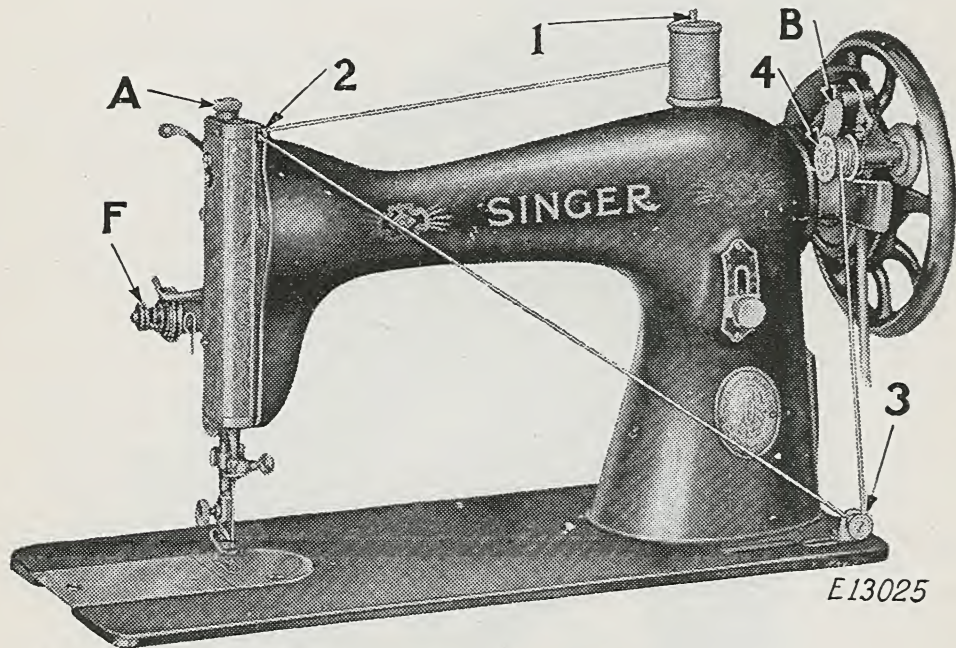

FIG. 5. WINDING THE BOBBIN
the small pin in the shoulder enter the hole in the side of the bobbin. Put the spool of thread on the spool pin (1, Fig. 5). Pass the thread into the thread guide (2, Fig. 5) at the top of the face plate, then from left to right under and between the tension discs (3) on the bed of the machine, then pass the thread up and through one of the holes (4) in the left side of the bobbin, from the inside. Press down on the bobbin and the bobbin winder latch (B, Fig. 5) will drop down and hold the bobbin winder pulley against the hub of the balance wheel. Then operate the machine the same as for sewing.
If the thread does not wind evenly on the bobbin, loosen the screw which holds the tension bracket (3, Fig. 5) in position on the bed of the machine and move the tension bracket to the right or left, as may be required, then tighten the screw.
For ordinary family sewing, it is seldom necessary to change the pressure on the material. If sewing fine silk or flimsy material, lighten the pressure by turning the thumb screw (A, Fig. 5) on the top of the machine over to the left so that it screws up. To increase the pressure, turn this thumb screw over to the right so that it screws down. The pressure should be only heavy enough to prevent the material from rising with the needle and to enable the feed to move the work along evenly. The heavier the material, the heavier the pressure; the lighter the material, the lighter the pressure.
The tension on the needle thread should be regulated only when the presser foot is down. Having lowered the presser foot, turn the small thumb nut (F, Fig. 5) at the front of the tension discs over toward you to increase the tension. To decrease the tension, turn the thumb nut over from you.